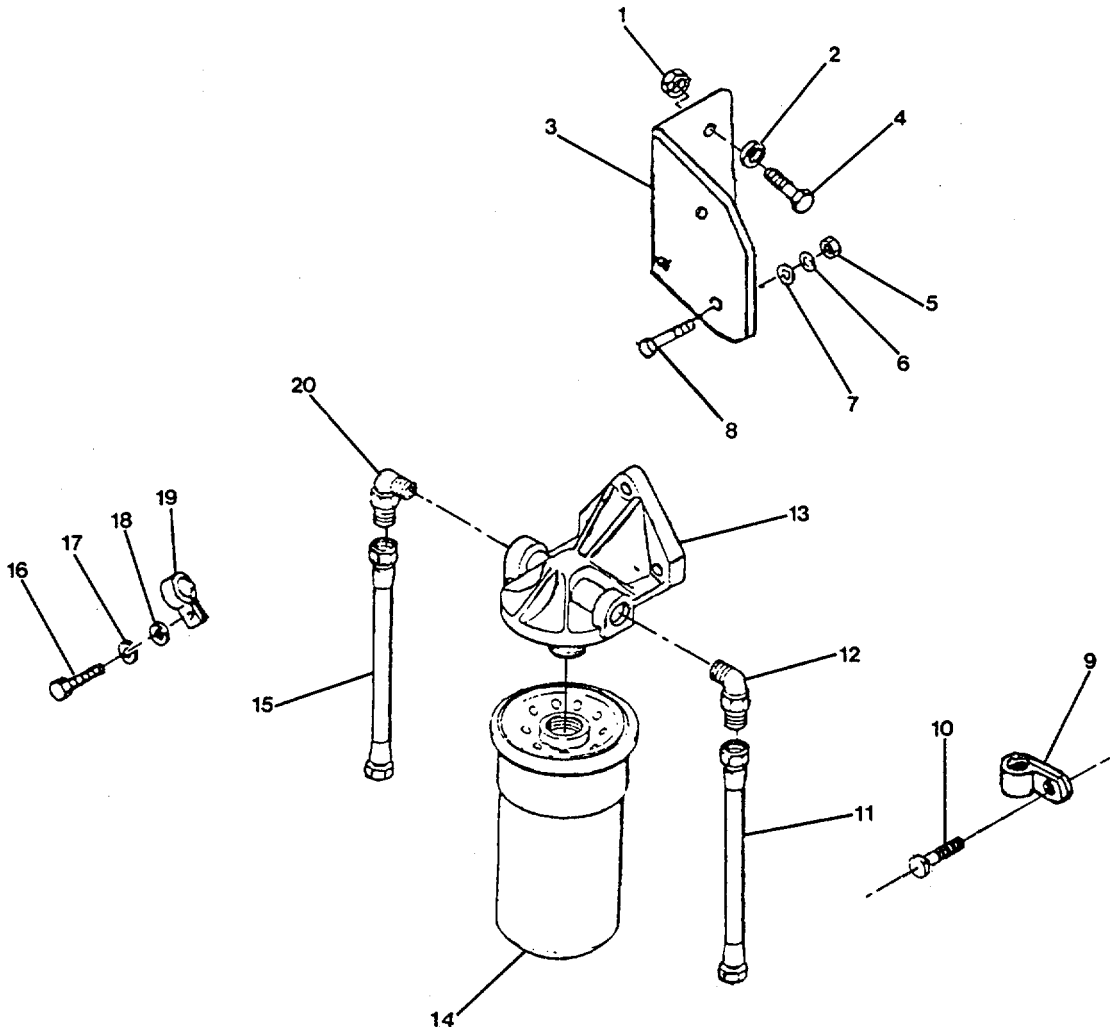

FIGURE 2-18. Lube Oil Bypass Filter Group.
**2-35. Replace/Repair Lube Oil Bypass Filter Group. (Figure 2-18)**